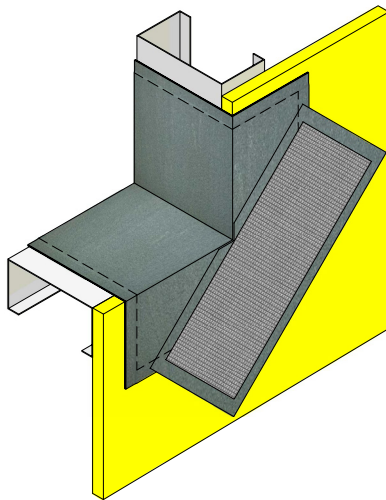

Figure 9
5. Cut Sheathing Fabric to desired size. Place the Sheathing Fabric into the wet Finestop RA/RS/VB. (See Figure 9)